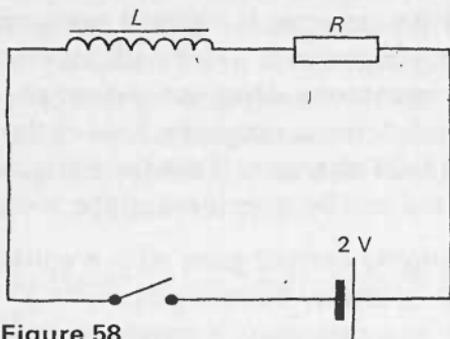

Figure 58
**38** When the switch in figure 58 is closed, the current in the circuit rises to 0.5 A in the first 0.01 s. For this period, the rate of rise of current is very nearly steady.  $R$  is  $0.1 \Omega$ , and  $L$  has negligible resistance.